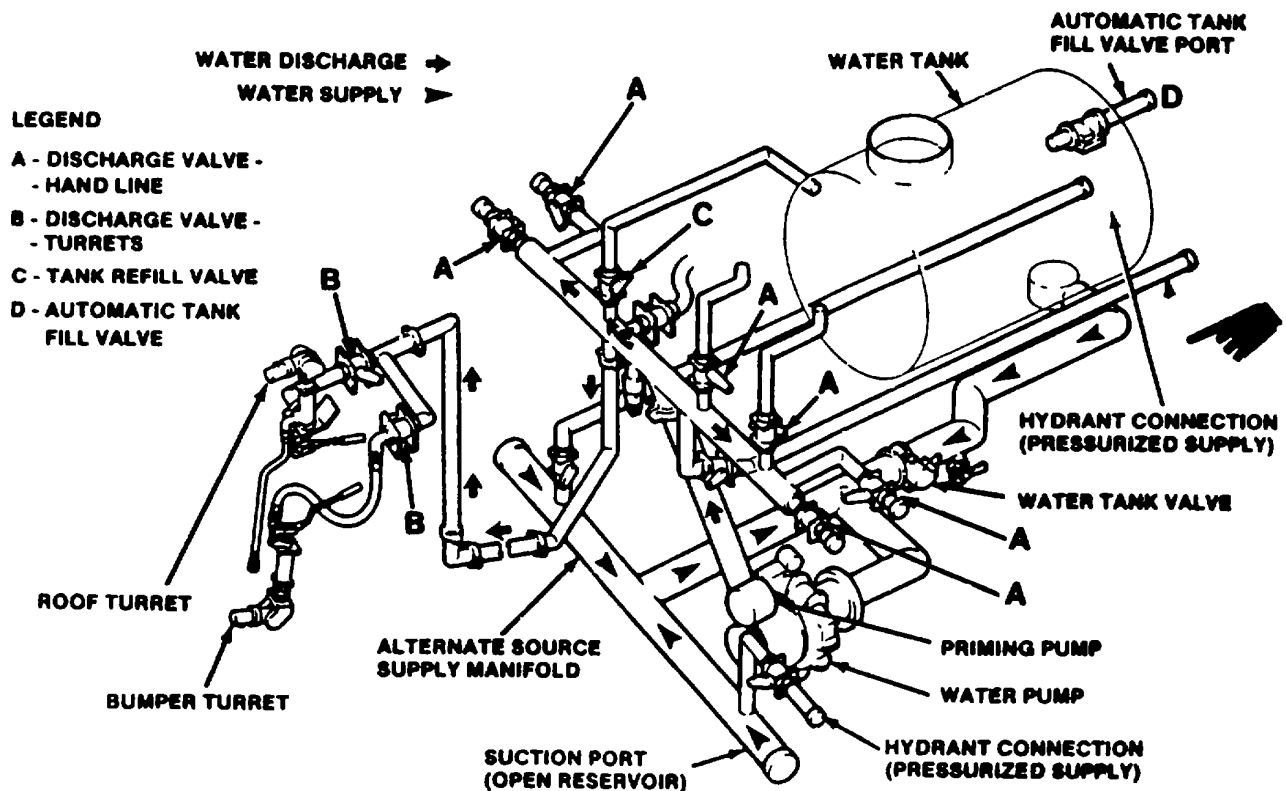

Figure 1-36. Water Supply and Discharge System
(1) In CFR mode water to the pump is always supplied from the tank, (see fig. 1-36) in structural mode, the supply can be from the tank or alternative sources via the suction manifold. The alternative sources may be fire hydrants, remote pumping units, or an open reservoir. If water is drawn from the tank for structural firefighting, a continuous supply must be secured via the automatic tank fill valve.
(2) Automatic priming of the fire pump takes place if the pump is void of water when initially engaged. The priming pump, driven by the fire pump, evacuates the fire pump suction. As soon as water pressure is available, the priming pump automatically disengages.
(3) From the pump the water flows via the discharge manifold to the turrets and handline discharge valves (A) and (B).